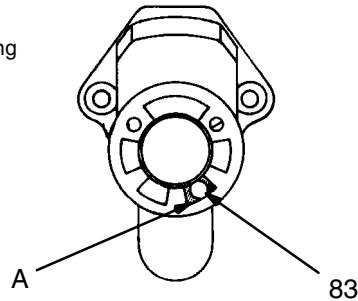
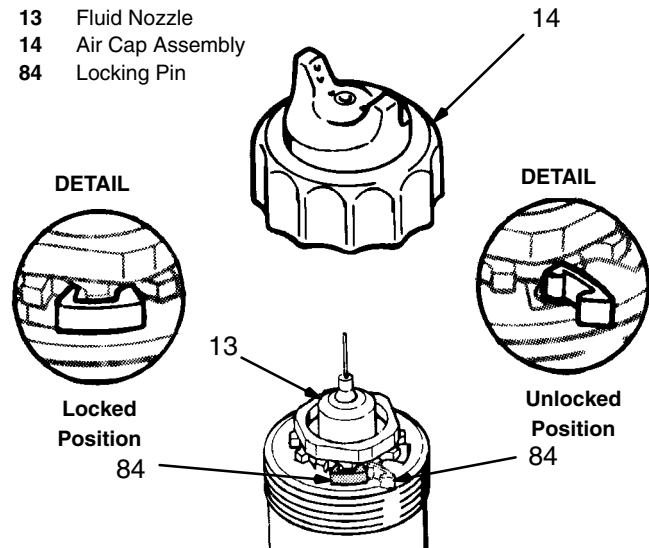

Fig 4
Fig 5
3. Push the pin housing (83) into the slot (A) on the front of the gun until it bottoms out. See Fig 4.
4. Push the locking pin (84) into the housing (83).
5. Turn the locking pin (84) to the unlocked position, and screw the new fluid nozzle (13) onto the gun. See Fig 5.
6. Turn the locking pin (84) to the locked position to lock the fluid nozzle (13) in place.
7. Carefully install air cap assembly. A void bending electrode (12). Tighten the retaining nut so it is snug, allowing the air cap to turn with resistance. If too tight, the spray pattern will be distorted.